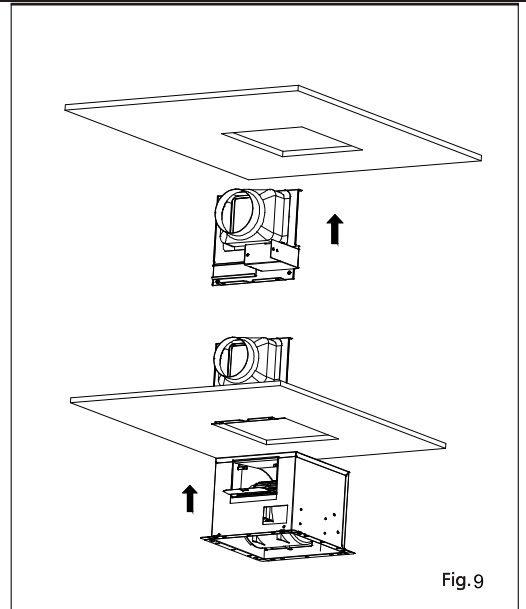

Fig.9
1. If the spacing B is 10 1/2 inches (266 mm) to 11 1/2 inches (292 mm) on joists, please follow the installation step as below. (Fig. 9 )